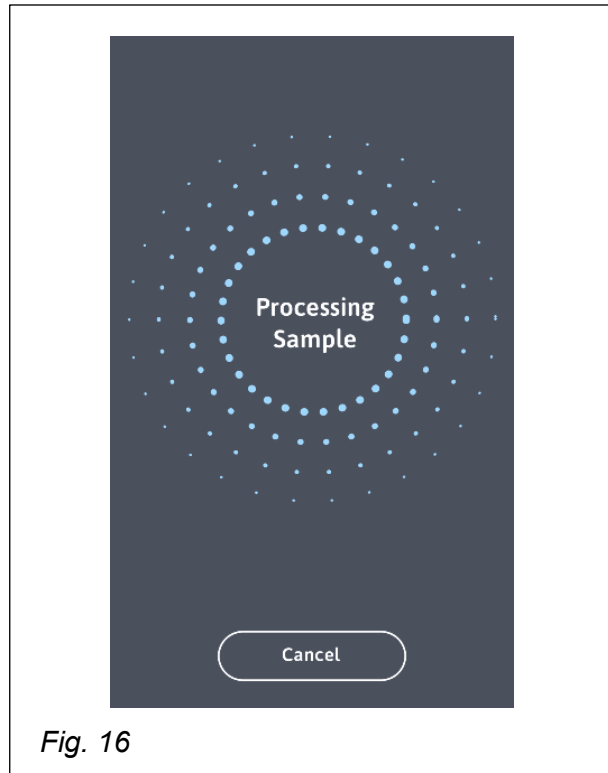

Fig. 16
4.2.4. Once sample mixing has been confirmed, the tube is moved into the analyzer and the testing process begins (Fig. 16)